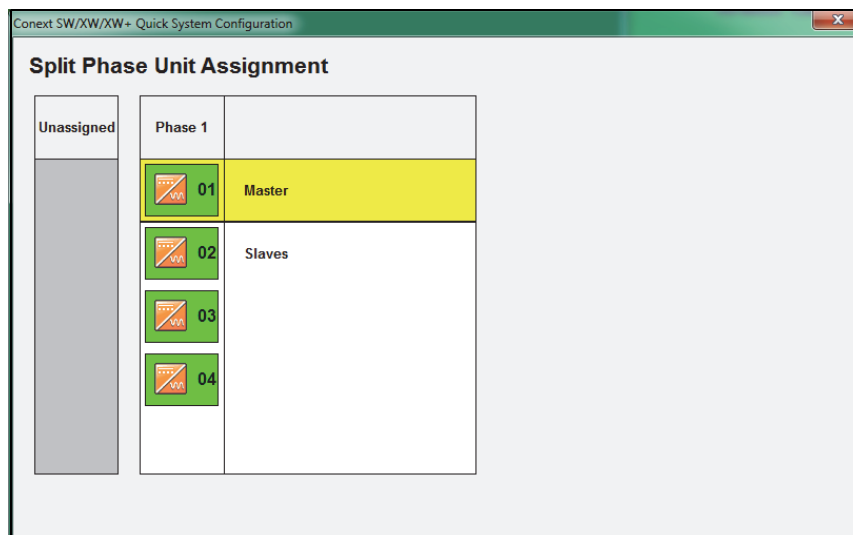
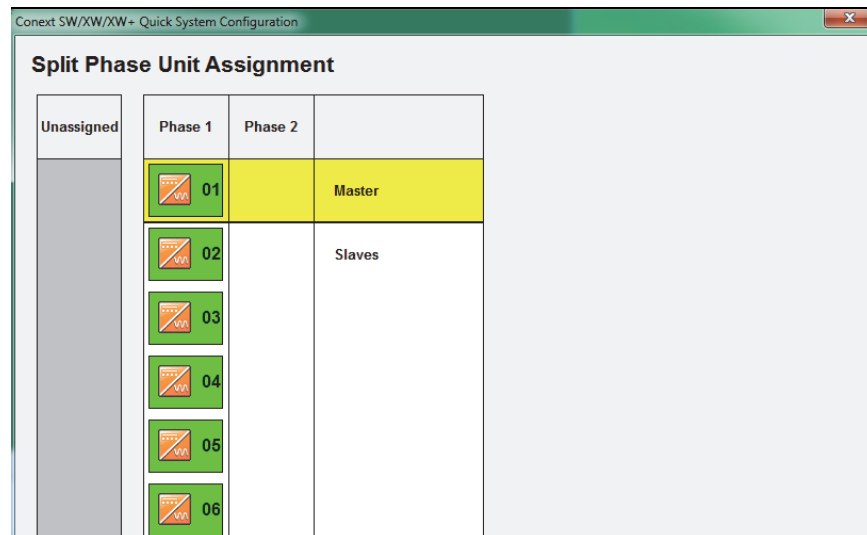

Figure 2-9 Split Phase Unit Assignment Window (Split Phase Units)
Figure 2-10 Split Phase Unit Assignment Window (Single Phase Units)
If you chose to configure a split-phase system, the Split Phase Unit Assignment window appears. There are two ways of configuring a split phase system. Either assigning multiple single phase units into a split phase configuration, or using split phase units and configuring one Conext XW+ as master and the rest of the split phase units as slaves. Depending on how your system was installed and which firmware version is running, you will see either the window in Figure 2-9 or Figure 2-10 to initiate split phase configuration.
- d) Drag and drop the unit that you want to be the system master into the empty master box. If the units are installed as Single Phase (Figure 2-10) you will be allowed to select a master unit for each phase.